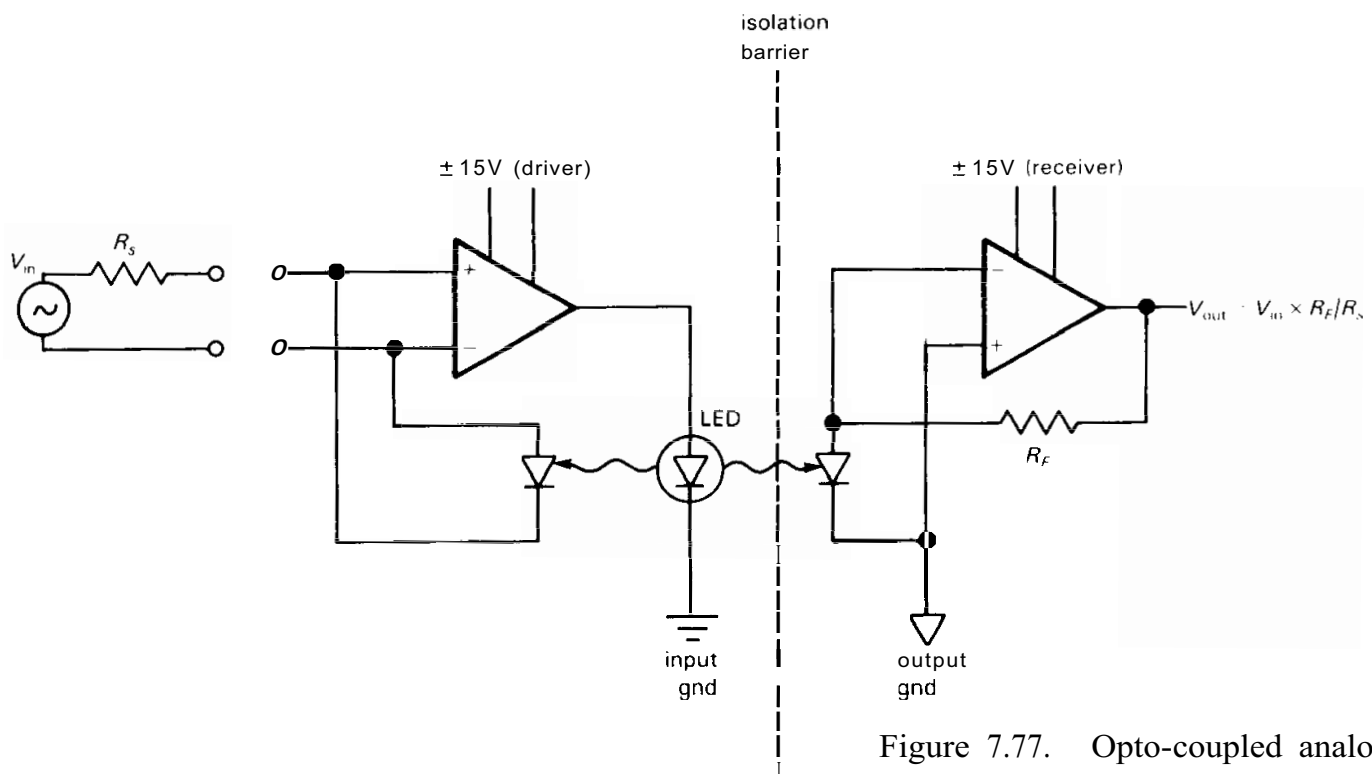

Figure 7.77. Opto-coupled analog isolation amplifier.
2. Optically coupled signal transmission via an LED at the sending end and photodiode at the receiving end. This technique is typified by the ISO100 from Burr-Brown. No high-frequency carrier is needed, since signals all the way to dc can be transmitted optically. However, to achieve good linearity, Burr-Brown uses a cute trick: A second matched photodiode at the transmitting side receives light from the LED, in a feedback arrangement that cancels nonlinearities in both LED and photodiode; see Figure 7.77. The ISO100 requires power supplies at both ends, isolates to 750 volts, and has 60kHz bandwidth.